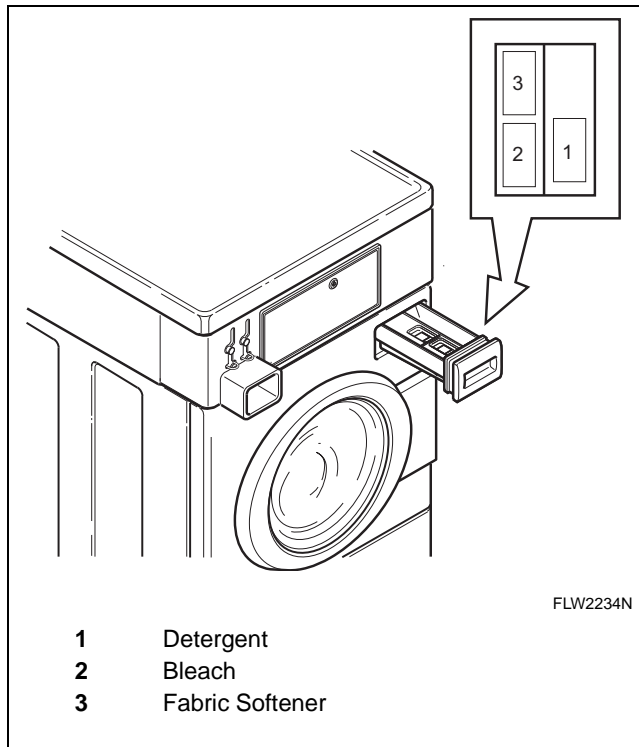

Figure 17
Open dispenser drawer. Measure and add low sudsing, high efficiency (HE) detergent (1), bleach (2) and fabric softener (3) to the dispenser drawer (refer to *Figure 17*). Close dispenser drawer.